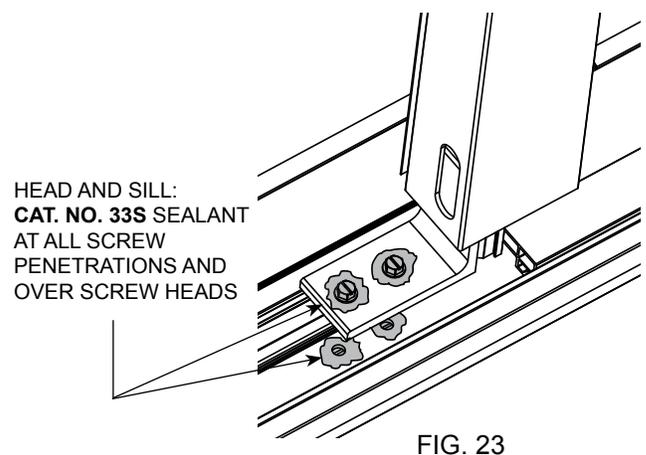

FIG. 23
6. Remove tape from fixed panel clips. Apply **Cat. No. 33S** sealant over bottom clip screw heads. Seal all screw penetrations in the bottom track during assembly. (FIG. 23)